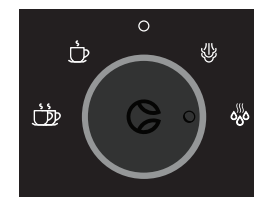

Fig. 3
7. When the cycle is complete, place a 500 mL container under the steam wand, and rotate the Dynamic Control Dial clockwise to the Hot Water Setting (see Figure 3).